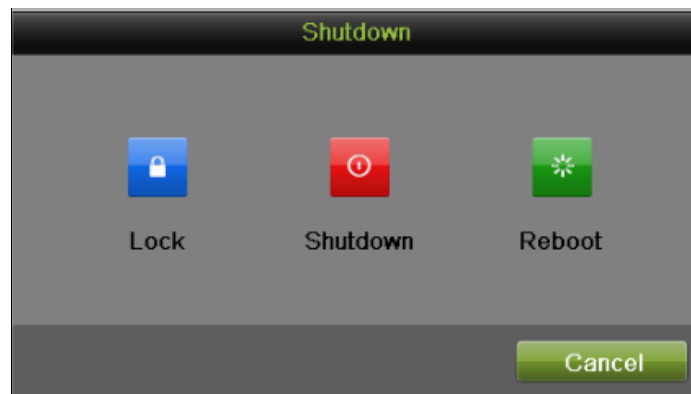

Figure 42 Shutdown Menu
1. Shutdown your DVR by going to Menu > Maintenance, click  in the lower left corner to pop-up the Shutdown menu, as shown in Figure 42.
While in the Shutdown menu (Figure 42), you may also reboot your DVR by clicking Reboot.